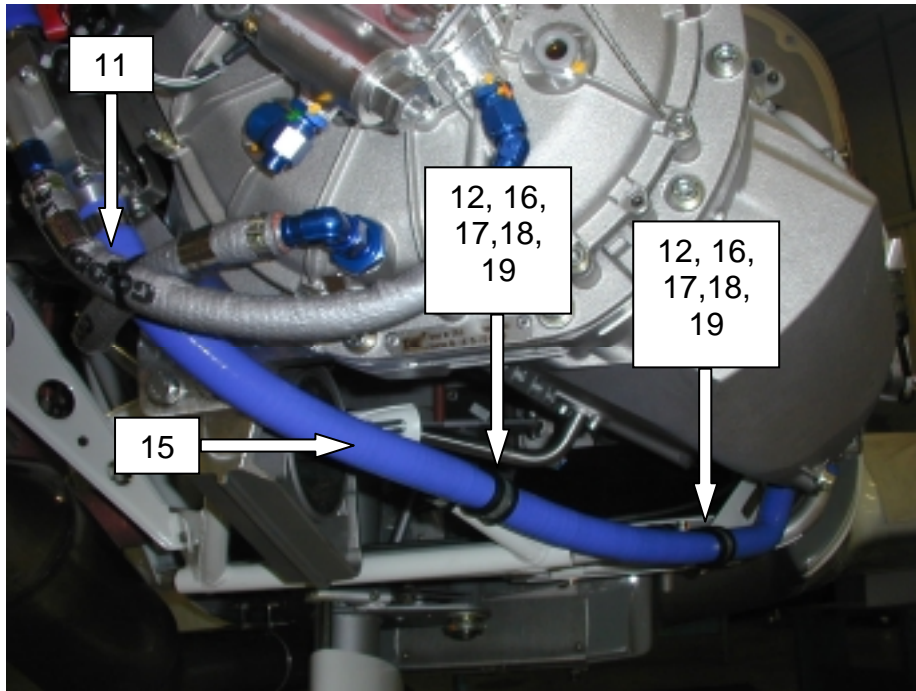

Fig. 75.2e
Mount the hose (item 15, P/N 54.81.54.010) between oil/coolant heat exchanger and cabin heat exchanger using two hose clamps (item 11, P/N 54.81.00.073). See fig. 75.2e and 75.2f
Attach the hose to the engine mount using two clamps (item 12, P/N 67.81.00.126), two engine mount clamps (item 16, P/N 67.81.00.119), two screws (item 17, P/N 95.13.16.000), 2 nuts (item 18, P/N 95.24.36.000) and 4 washers (item 19, P/N 95.61.03.000). See fig. 75.2e and 75.2f.